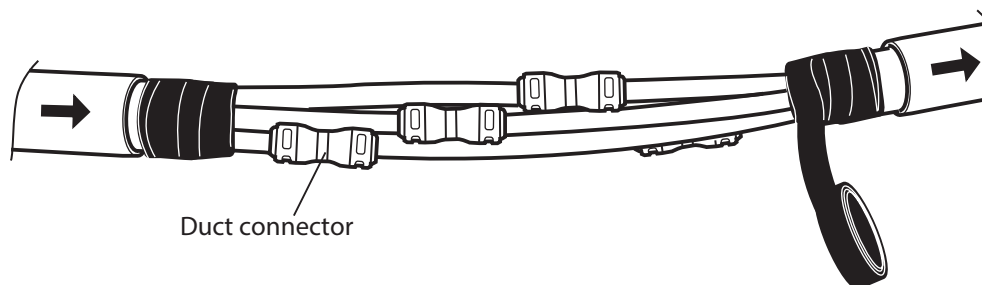

Figure 12 – Duct Connectors Inside the Duct Joint Closure
To avoid squeezing or kinking the micro-ducts during the jointing process, it is very important to stack the duct connectors inside the duct joint closure, see Figure 12. The procedure how to joint ducts for direct burial (DB) is described in the installation manuals for the corresponding jointing kits.